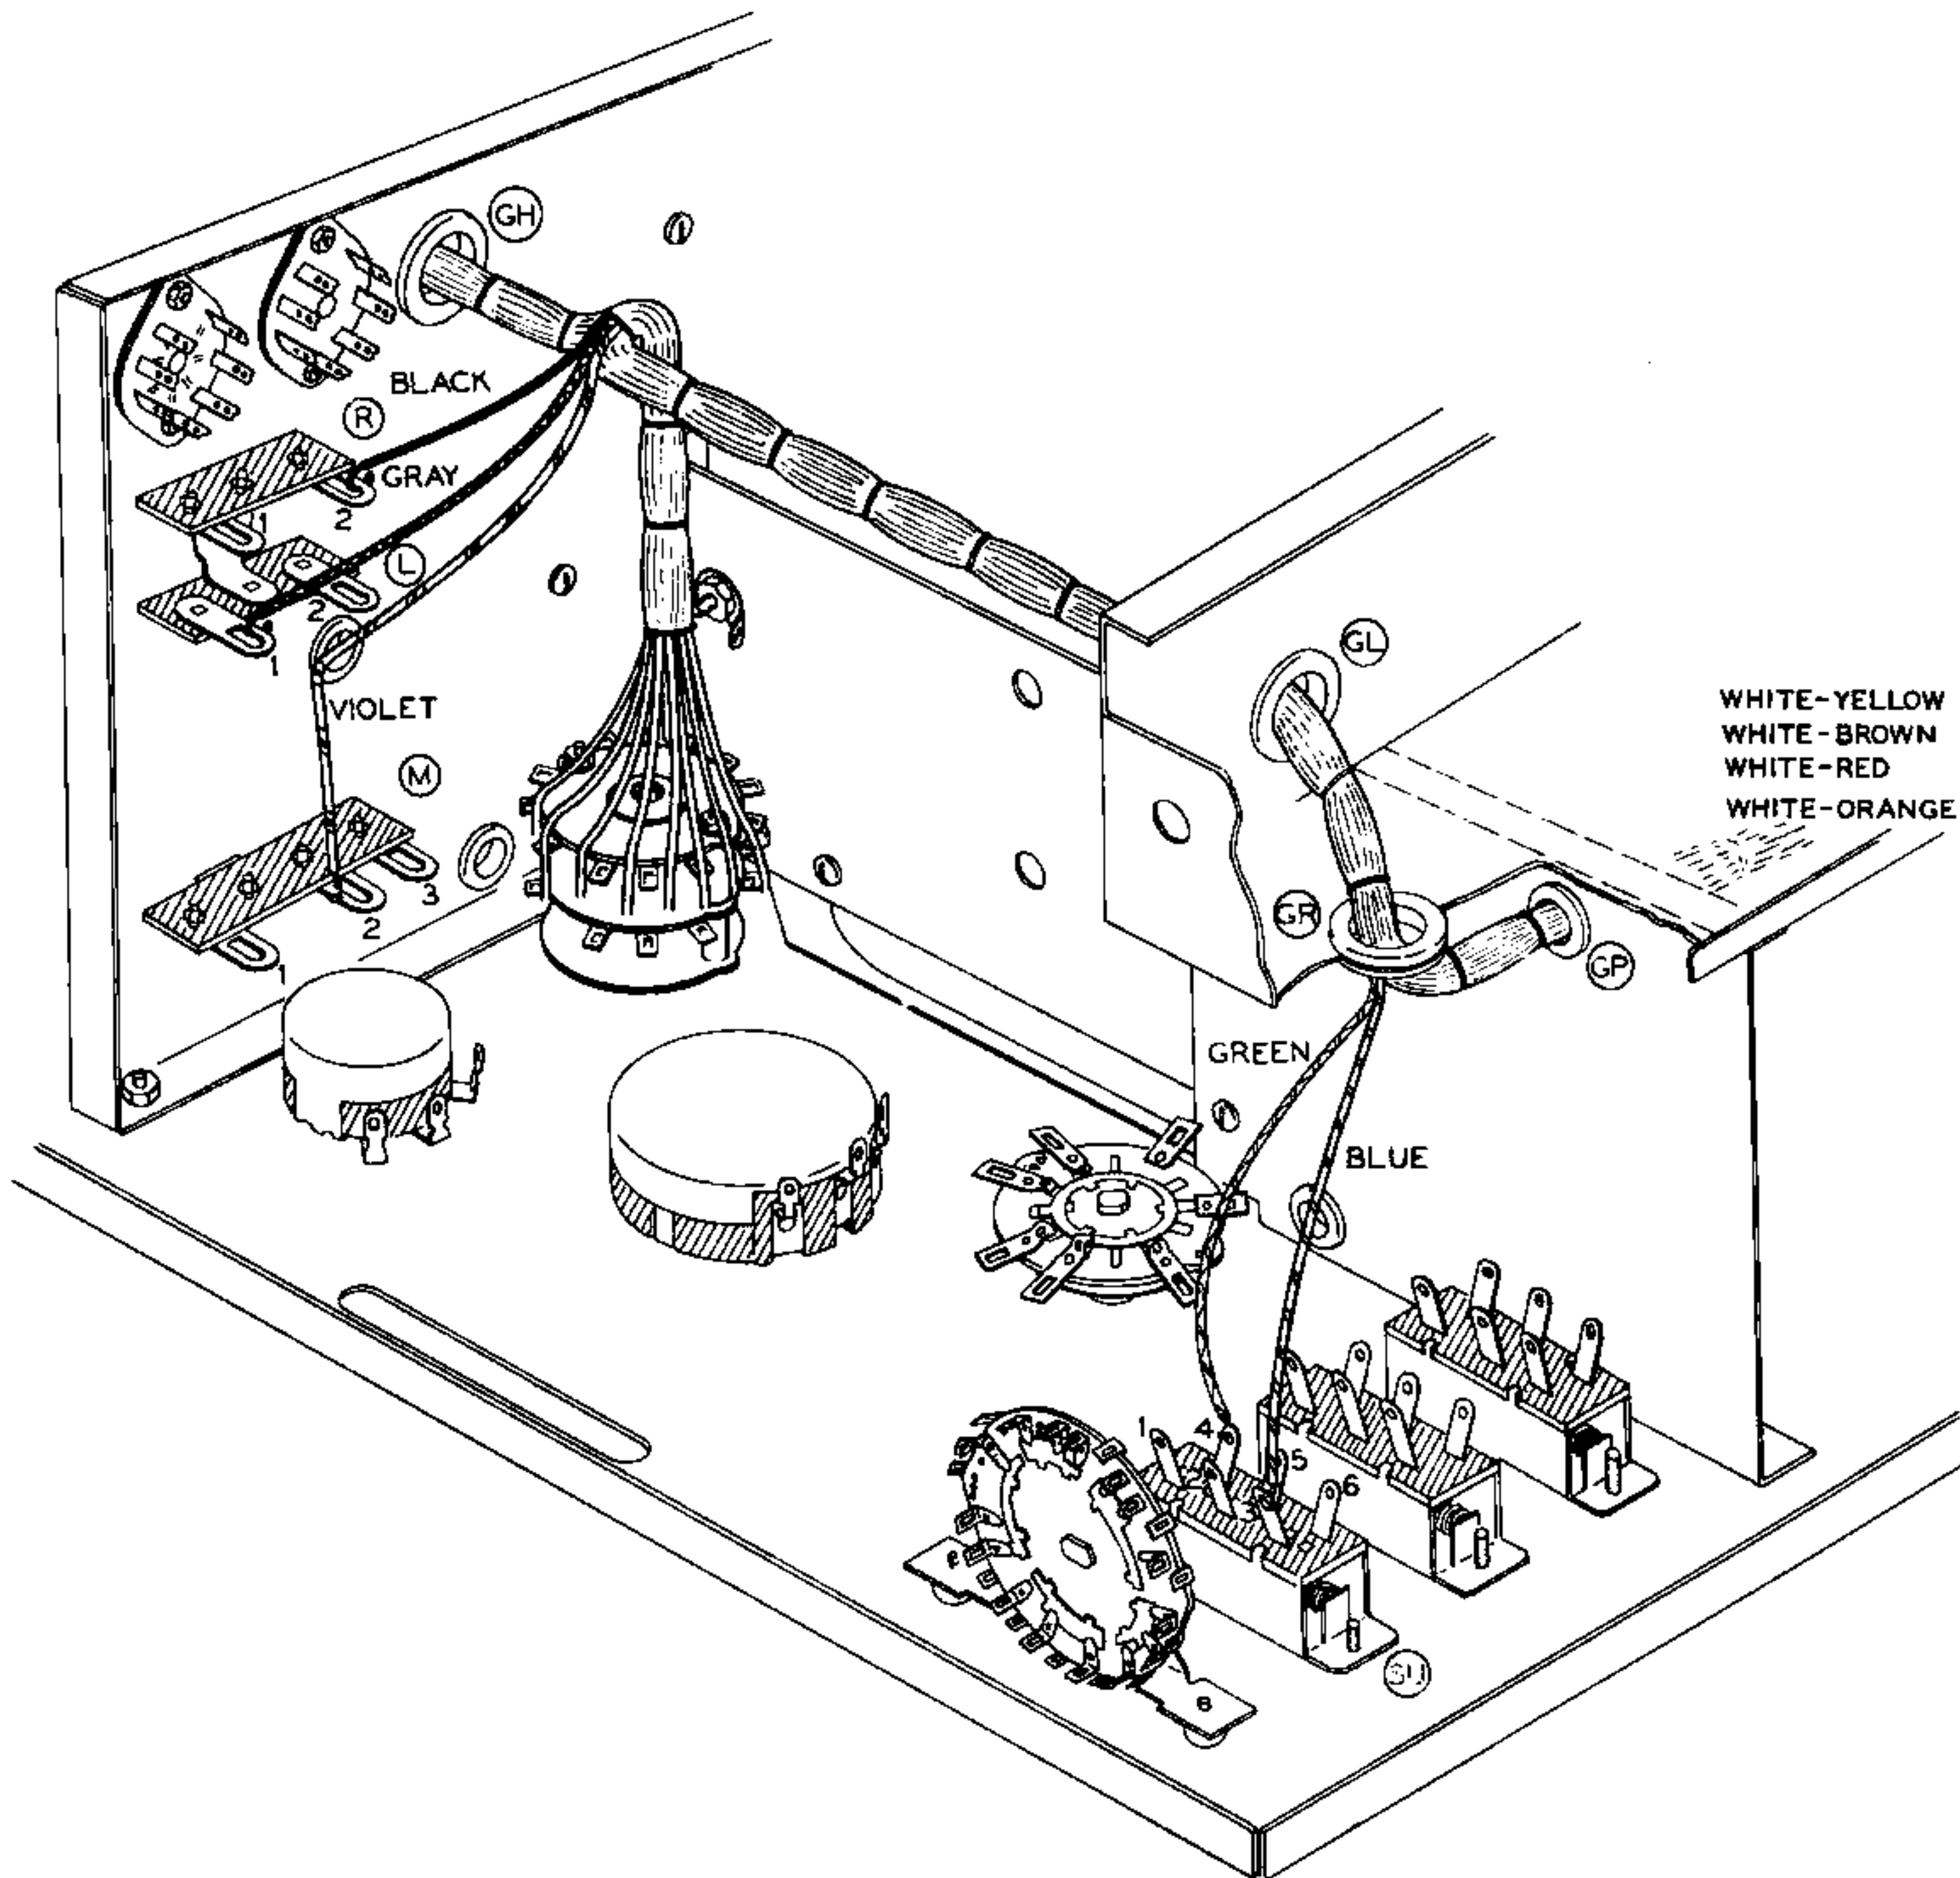

Figure 58
- ( ) Install the switch as shown in Figure 58. Again the #1 terminals should be toward the top of the panel.
Bend the cable as shown in Figures 58 and 59. Pass the leads through their respective grommets.